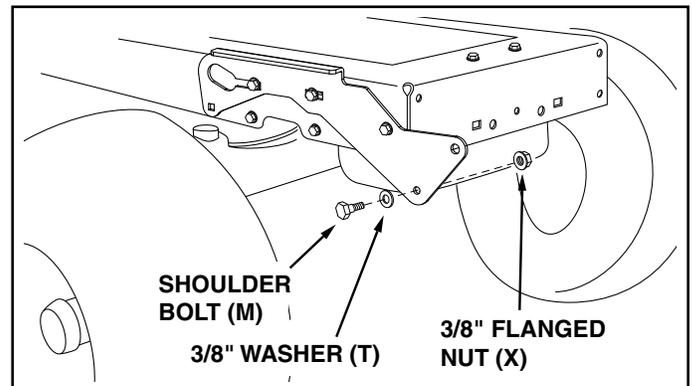

FIGURE 24 RIGHT SIDE VIEW
STEP 25: (SEE FIGURE 24)
- Install a hex head shoulder bolt (M), a 3/8" washer (T) and a 3/8" flanged lock nut (X) in the R.H. and L.H. Side Plates.